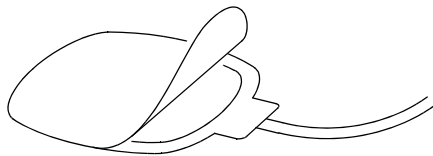

Figure 5-2 Peeling the Liner from the Electrode
- 2 Slowly peel back the protective liner on the electrodes, beginning with the cable connection end (refer to Figure 5-2).